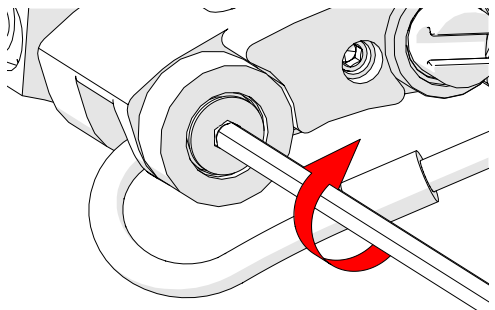

Fig. 47 - Replace screw
4. Replace the screw using the 2 mm hex driver (Fig. 47).